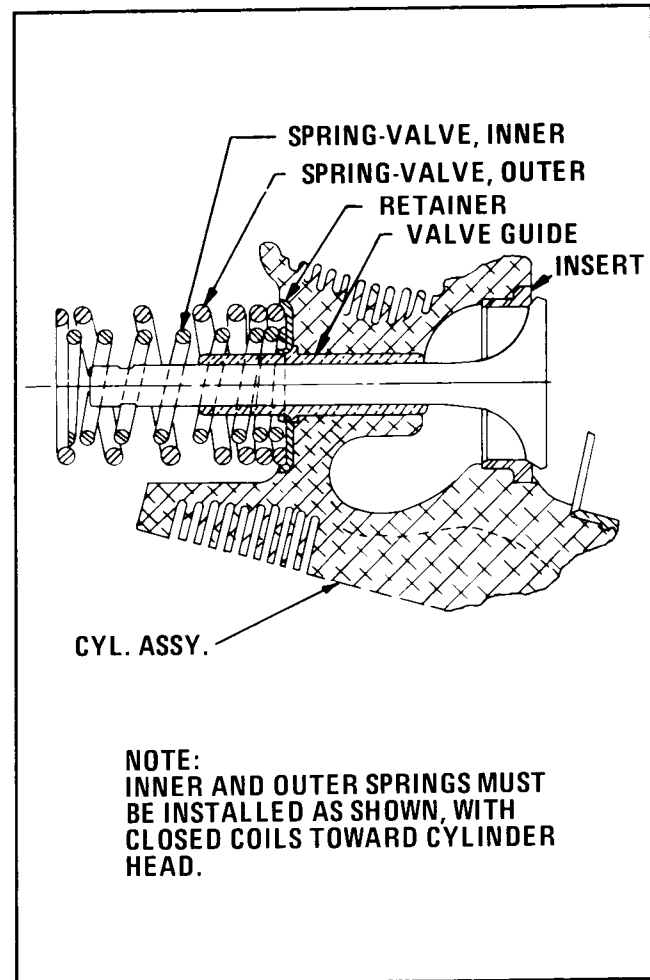

FIGURE 7-1. VALVE SPRING INSTALLATION.
c. Place valve spring retainers (27) over valve guide (32) cup side up. Install inner and outer valve springs (26,25) as shown in Figure 7-1. Install upper retainer (24) and rotator (23). Compress springs and install keys (22). Make certain keys are properly seated before releasing pressure